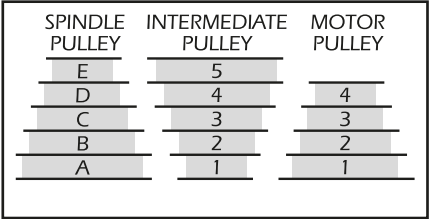

FIG.12
9.1 SPINDLE SPEED ADJUSTMENT FIGS. 12 - 14